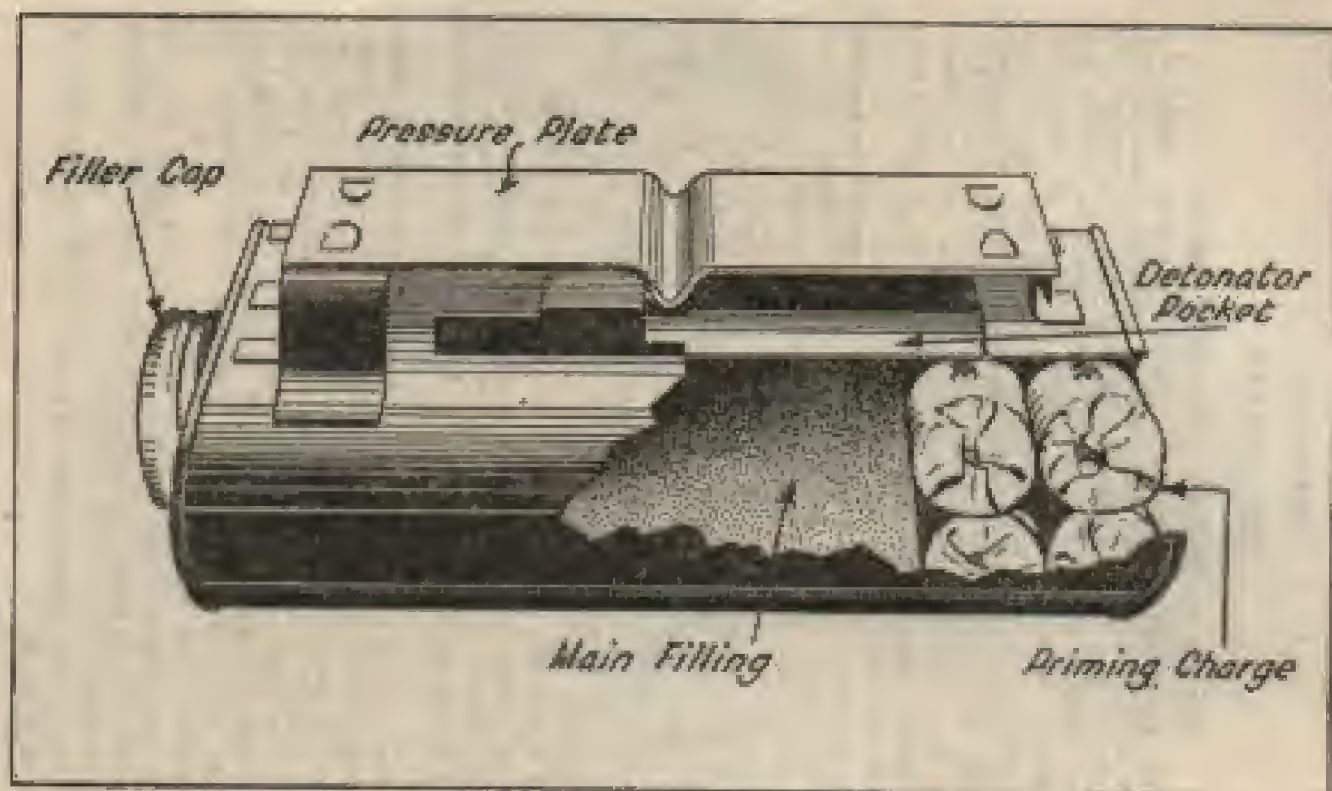

Fig 1. 75 grenade Mark 1, sectional view
1. No. 75 grenade (See Fig 1)
(a) *Description.*—This is a screw cap metal container filled with 1½ lb of HB with a special primer inside the container at the opposite end to the screw cap (see Fig 1). On top of the container is a pressure plate with special pockets underneath for the detonator and primer sets used when the grenade is employed as an anti-tank mine (see Military Training Pamphlet 40, Part 1). Twelve grenades are packed in a tin box with 24 detonator and igniter assemblies.